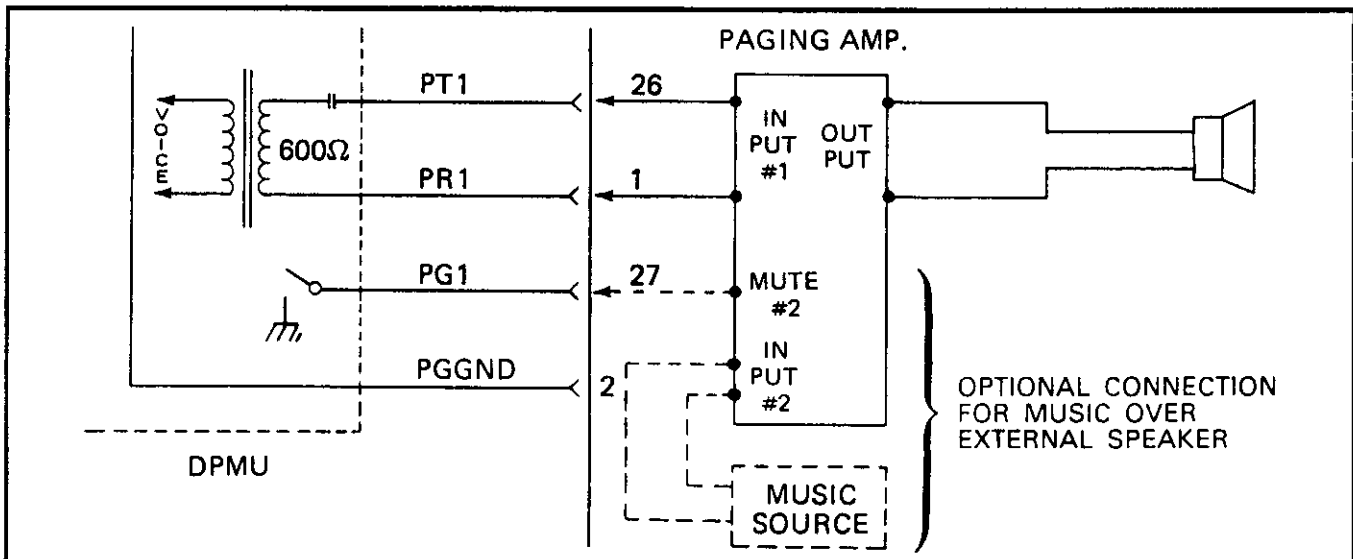

FIGURE 47—PAGING WITH MOH FROM SAME AMPLIFIER
13.32 Figures 47, 48, and 49 depict possible paging arrangements. As a standard feature (part of the DPMU PCB), the system provides a 600-ohm output to a paging amplifier. If more than one paging zone is required, the output of the amplifier can be routed back to the DPMU PCB where it will be switched to one of five sets of speakers via relays K1 ~ K5. The relay to be operated is determined by the access code dialed by the station user. The actual access code is assigned in software (see Section 400-100-300, *Programming*).